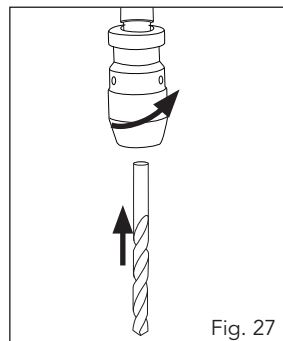

Fig. 27
2. Your digital drill press is equipped with a keyless chuck. This enables tools to be changed without the need for an additional chuck key. To do so, insert the tool in the drill chuck (16) and tighten by hand (Fig. 27).